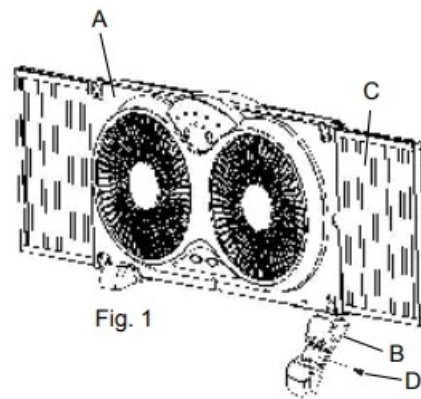

Fig. 1
- Push the feet (B) into the fan body (A) and snap them together. (Fig. 1). Fasten the two screws (D) from the bottom of the feet.